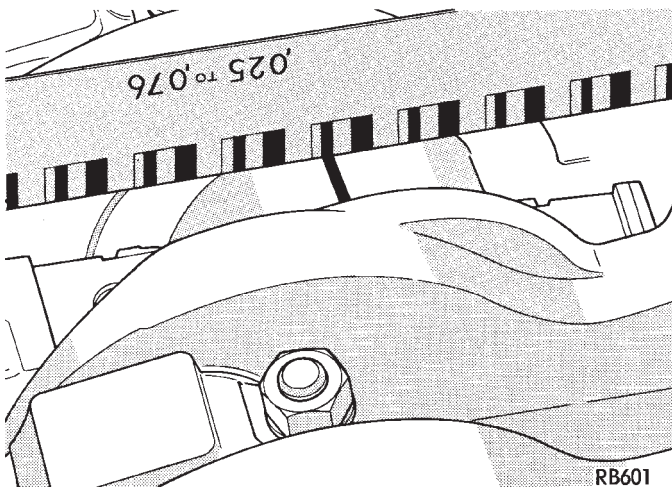

Fig. 12 Checking Connecting Rod Bearing Clearance
(1) Follow the procedures outlined in the Standard Service Procedures Section for Measuring Main Bearing and Connecting Rod Bearing Clearances. (Fig. 12). Refer to Connecting Rod Specification Chart.
- (2) Tighten nuts to 51 N·m (37 ft. lbs.).
- (3) Remove connecting rod cap and measure Plastigage (Fig. 12).